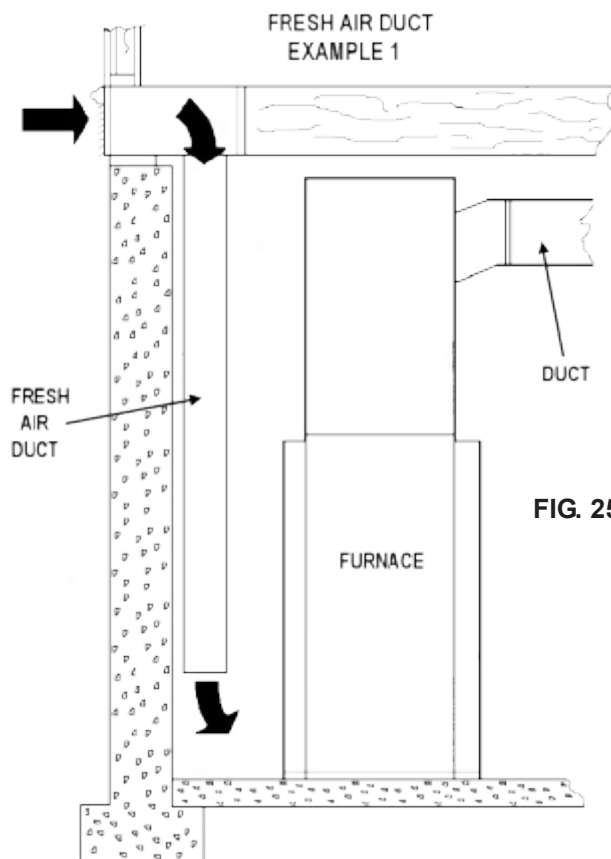

FIG. 25
Make-up outside air must be provided to furnace for proper fuel combustion. This is provided by openings to outside of building. These openings shall have unobstructed areas not less than the areas of the flue pipe. See Figs. 25, 26, 27
*Outside air is needed to replace air used by the burner and wood combustion process. Outside air is required to replace air used for taking the by-products of combustion out the chimney. Outside air is needed to replace air expelled by kitchen or bathroom fans. It is also needed to replace air expelled by water heater chimneys or fans. See Figs. 25, 26, 27*
Failure to provide outside air to the furnace area will result in negative pressure, or vacuum, in the home. Smoke from the wood fire may not be drawn up the chimney. This causes creosote buildup and sometimes causes smoke to enter furnace room. See Figs. 25, 26, 27